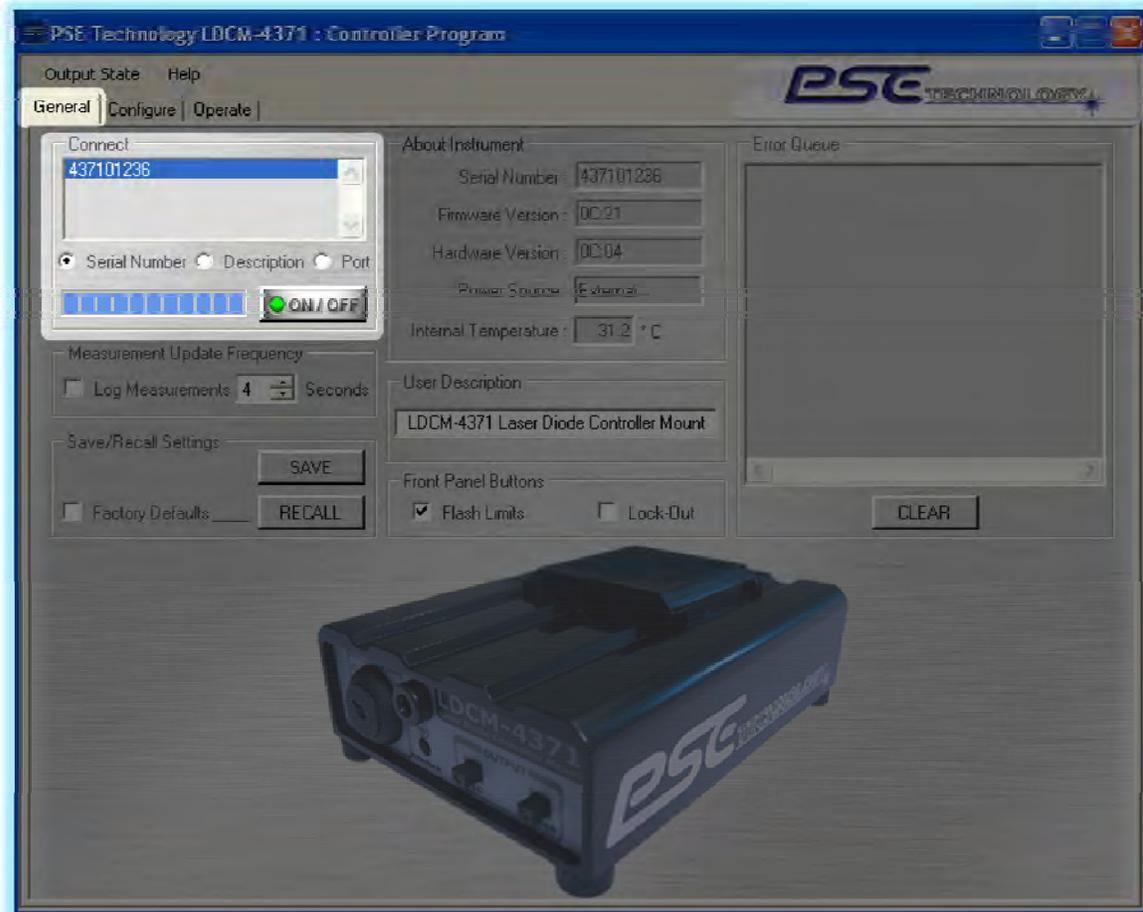

Figure 3.5: Attached Instruments Menu Screenshot
1. **Available Instruments:** By default the first instrument identified during the program initialization sequence is automatically selected in the Attached Instruments section as shown above in figure 3.5. The user can choose a specific attached instrument using the Instrument Selection list box. The selection can either be performed using the unique serial number assigned to each instrument, the user assigned instrument description, or the computer assigned communications Port. The instrument listing option, **Serial Number, Description,** or communications **Port** can be changed by selecting one of the three radio buttons below the select instrument list box.